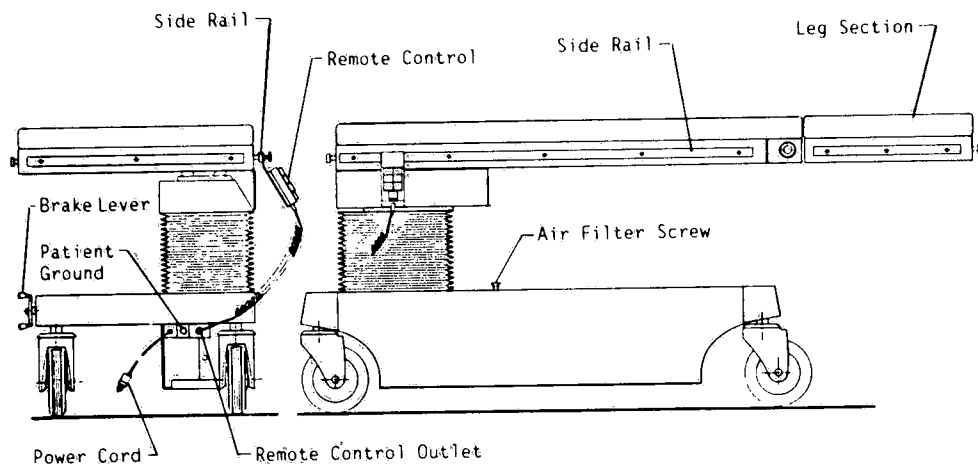

Figure 2-1. ARNOLD TABLE
2.1 PRELIMINARY SET-UP (SEE FIGURE 2-1)